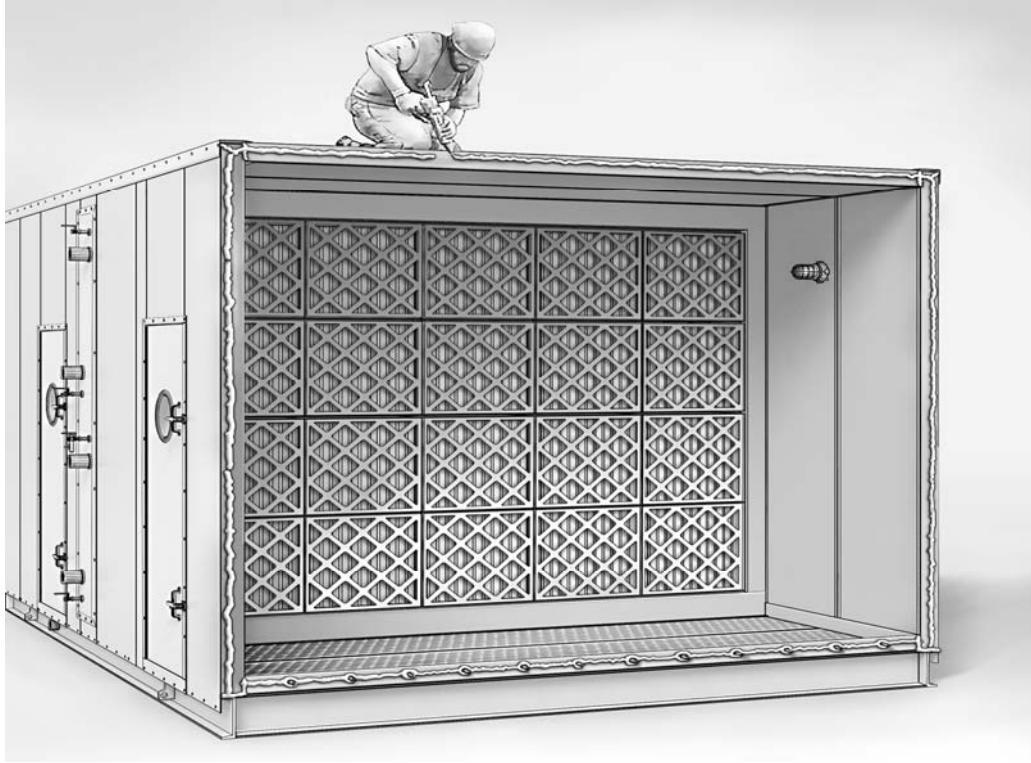

Figure 6: Caulking of Split Unit Joining Surface.
2) Apply caulking around the facing edges of the casing at the joint (ref. Figure 6) and below the base joining flange holes on both sections.